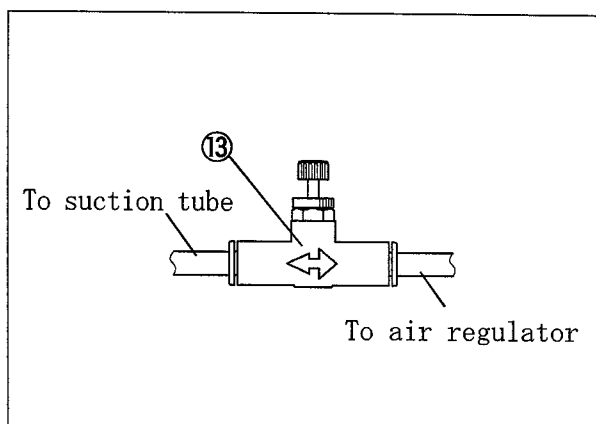

Fig. 12
Check the in-line speed controller⑬ is set correctly. (Fig. 12)